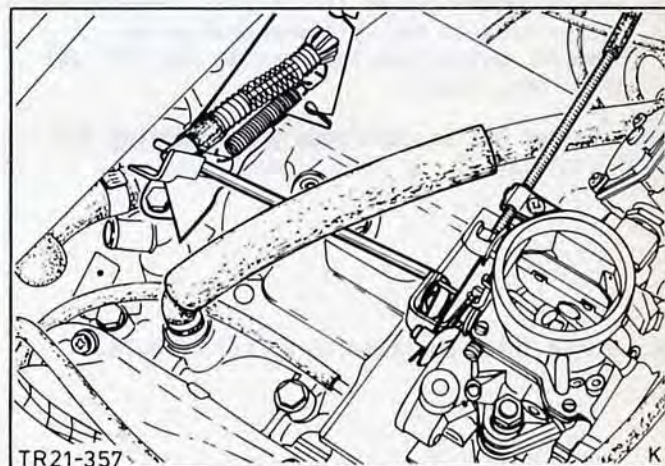

Fig.75. Disconnect throttle linkage.
5. Disconnect throttle linkage at carburettor (clip), Fig.75. Detach mounting bracket from inlet manifold (2 bolts) and remove with throttle cable and linkage. Remove choke operating cable.